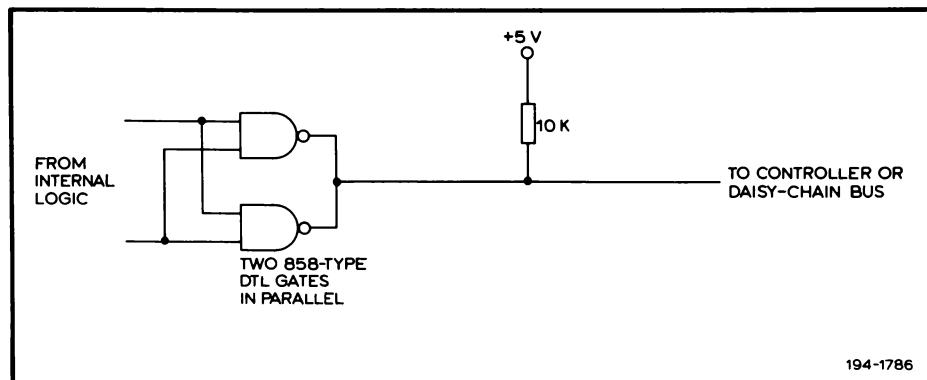

FIGURE 4.5 OUTPUT DRIVER CIRCUIT
- (b) All other output lines are driven as shown in figure 4.5. The lo output level is +0,5 volt maximum at 95 millamps sink current. The hi output level is +4,5 volts minimum with no external load current.